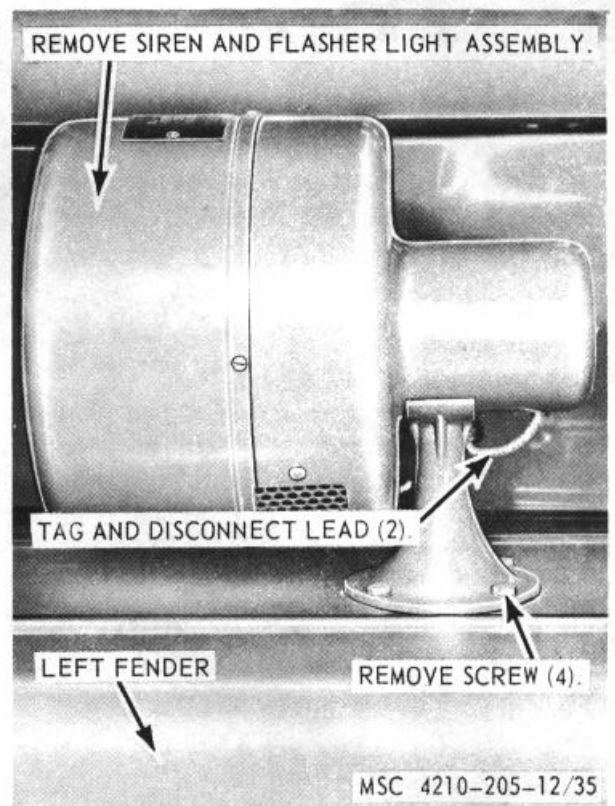

Figure 35. Siren and flasher light, removal and installation.
a. *Removal.* Refer to figure 35, and remove the siren and flasher light from the fire truck fender.